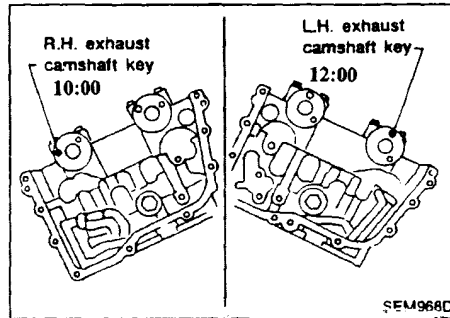

Figure 9
3. To prevent valve or cam damage, be sure to install the cam shafts with the RH cam sprocket dowels in the 10 o'clock position and the LH cam sprocket dowels in the 12 o'clock position. (Figure 9)